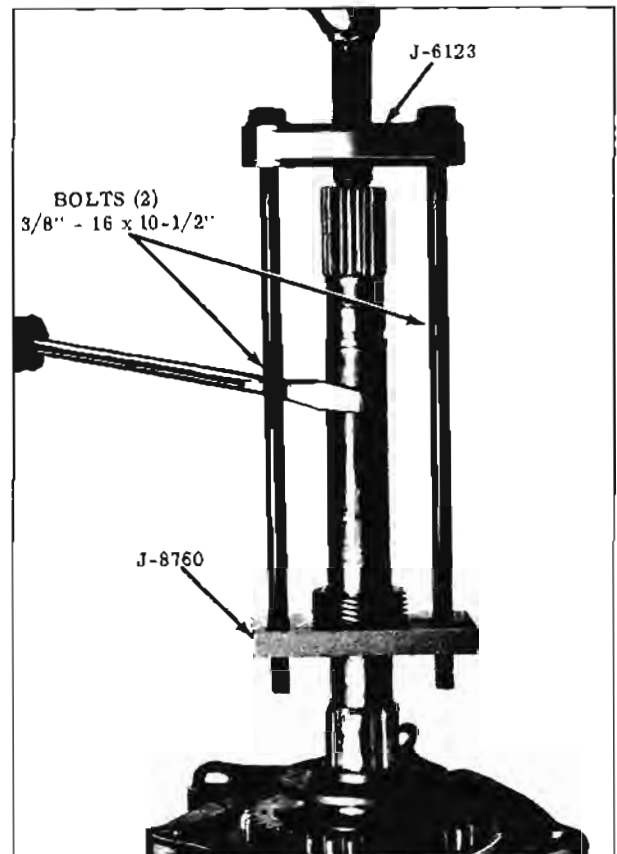

Fig. 11-234 Speedometer Drive Gear Removal
2. Remove the speedometer drive gear with tools J-6123 and J-8760. (Fig. 11-234)